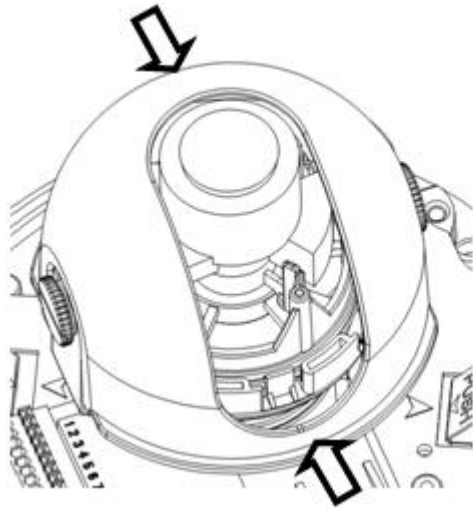

Figure 3-5 Installation 3
a) For the IR series product, you can skip current step and go the step b) directly. For the non-IR series product, push the port slightly to remove the decoration enclosure from the black plastic enclosure. See Figure 3-5.